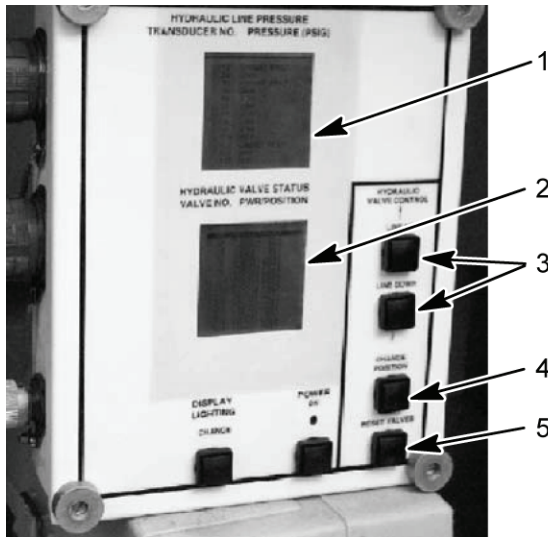
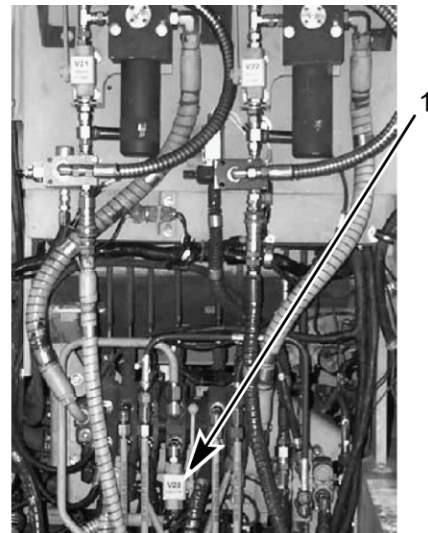

Figure 18. HDC Control Box
Figure 19. DCV Bank
- Loosen jam nut (Figure 20, item 2). Read transducer T-4 hydraulic pressure on the HDC display (Figure 18, item 1). As assistant moves left-hand SUSPENSION CONTROL lever to RAISE and EJECTOR CONTROL lever to BACK. Rotate valve (Figure 20, item 1) clockwise to increase pressure; counterclockwise to decrease pressure.
- Verify pressure is now within limits by having assistant move left-hand SUSPENSION CONTROL lever to RAISE and hold EJECTOR CONTROL lever to BACK. Read transducer T-4 hydraulic pressure on the HDC display (Figure 18, item 11).
- Manually open ejector inhibit ball valve V23 (Figure 19, item 1) on the DCV bank. Using LINE UP or LINE DOWN button (Figure 18, item 13), select V1 on the HDC display (Figure 18, item 12). Open V1 on the HDC display (Figure 18, item 12) by selecting the CHANGE POSITION button (Figure 18, item 14) on the HDC control box.